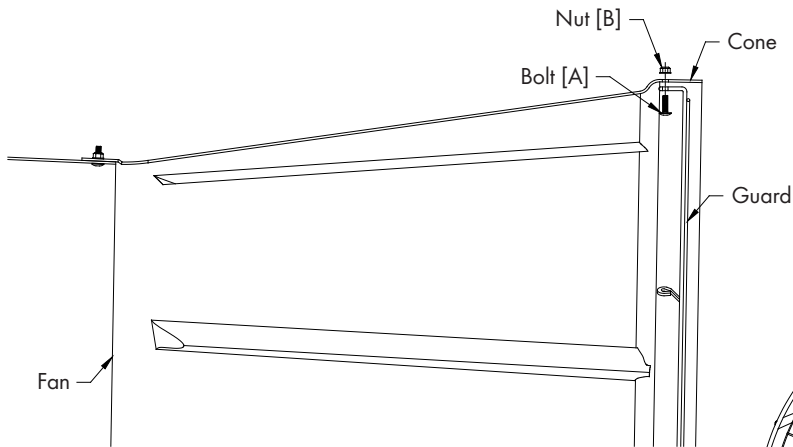

Figure 4A
Insert Guard into Cone with the Guard Eyelets facing away from you (in). Make sure each Eyelet lines up with a hole in the cone sections and fasten in place with (8) Bolts [A] and Nuts [B]. DO NOT tighten bolts at this time. See Figure 4A and 4B.